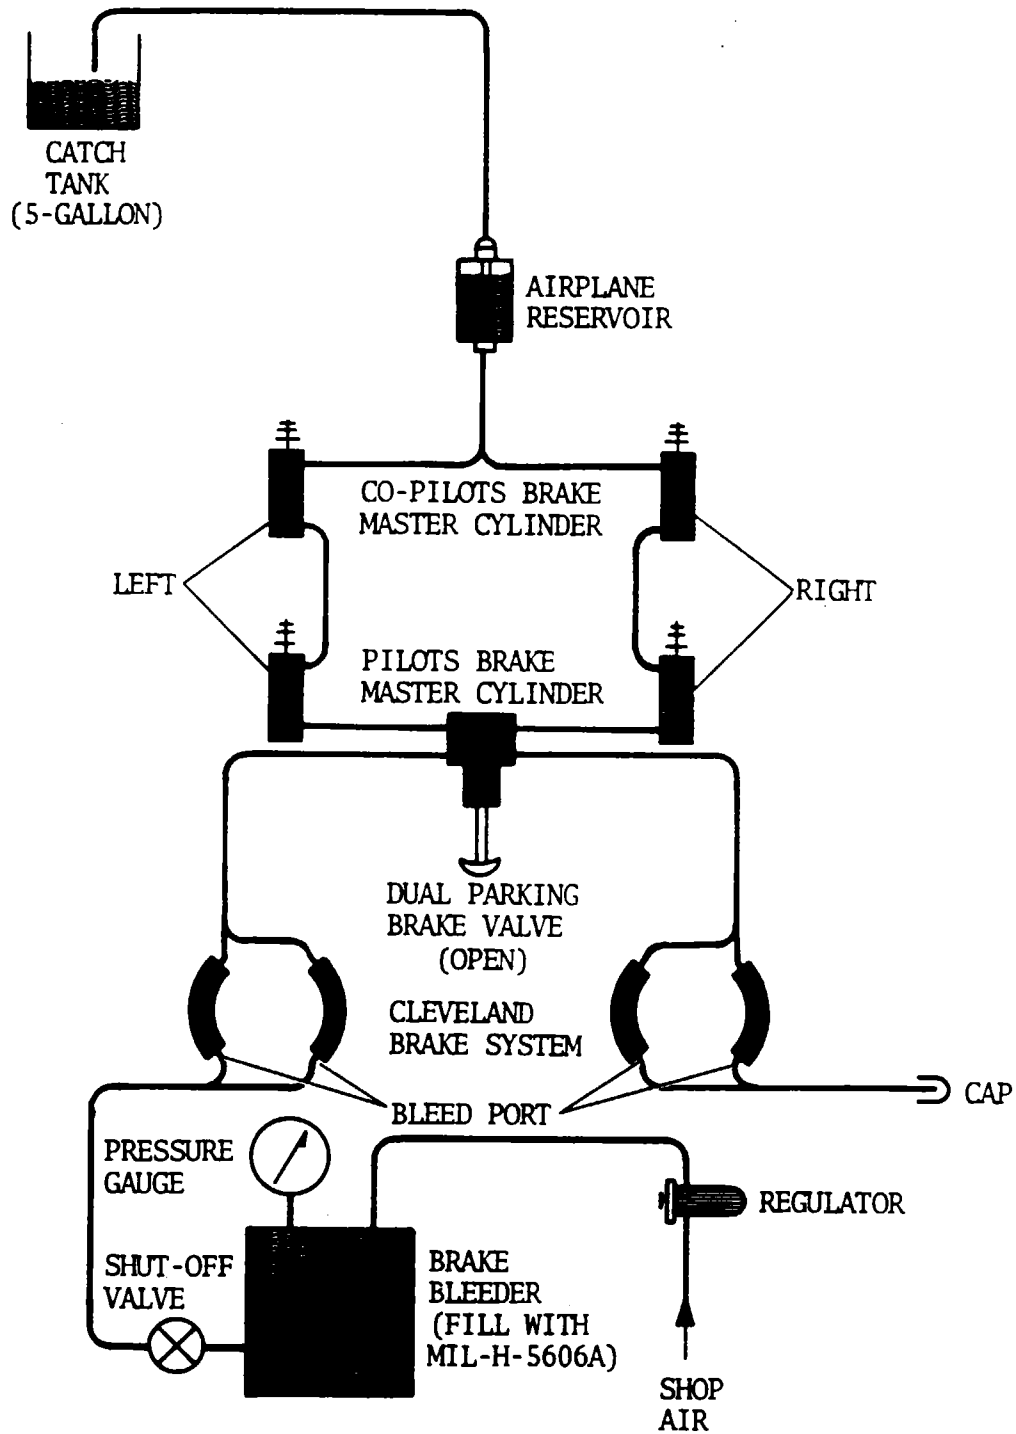

Figure 32-23. Bleeding Brake (Pressure Pot)
3. Slide a hose over the bleeder fitting, loosen the fitting one turn and pressure fill the brake system with MIL-H-5606 fluid. (Refer to Figure 32-23.)